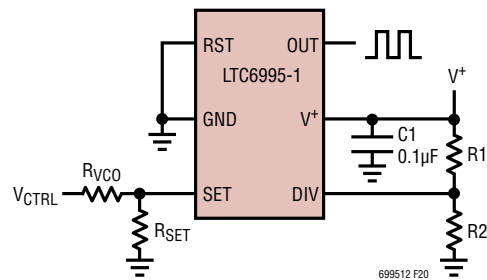

Figure 20. Voltage-Controlled Oscillator
With one additional resistor, the LTC6995 output frequency can be manipulated by an external voltage. As shown in Figure 20, voltage  $V_{CTRL}$  sources/sinks a current through  $R_{VCO}$  to vary the  $I_{SET}$  current, which in turn modulates the output frequency as described in Equation (3).